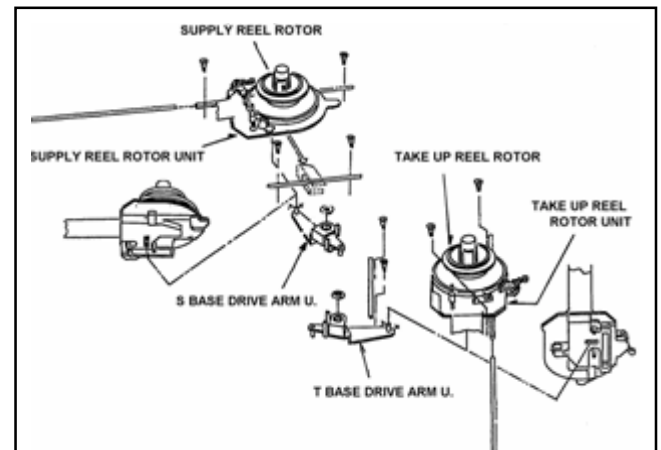

Figure 5-5-2
6. Remove the Supply and Take Up Reel Rotor Unit and Reel Outer Rail as shown in Figure 5-5-2.
2. Hang on the Reel Rotor Unit on Reel Inner Rail and Install the Reel Rotor Unit matching the pin of Drive Arm Unit with groove position of Reel Base as shown in Figure 5-5-2.
3. Install the 4 screws (C), (D), (E) and (F).